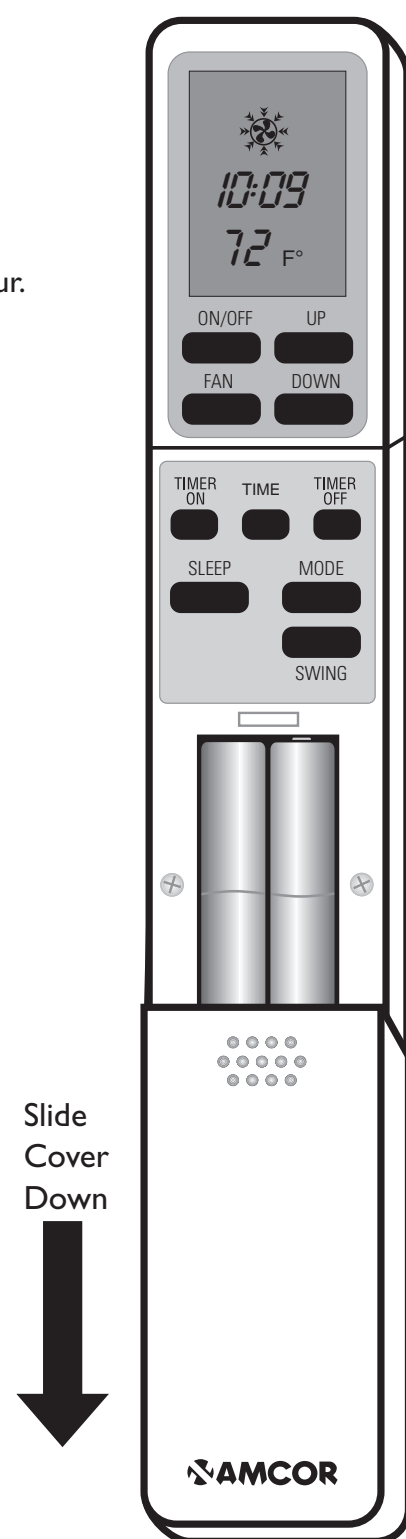

fig. 1
- Separate the filter fixer from the filter holder (see fig. 1).
Insert batteries by pulling down on front cover (See fig. 1).